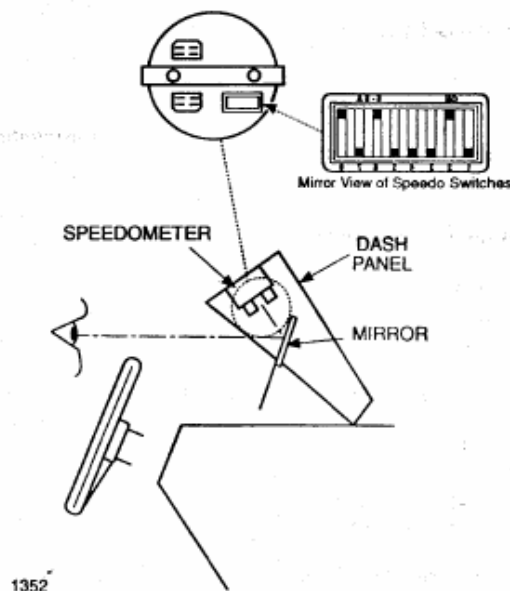

Fig. 8 - Rear View of Speedometer in the Instrument Panel
5. Lift up the instrument panel and position a mirror, as shown in Fig. 8, to view the back of the speedometer.
- a) With the vehicle stopped, lift the instrument panel and position a mirror, as shown in Fig. 8, to view the back of the speedometer.